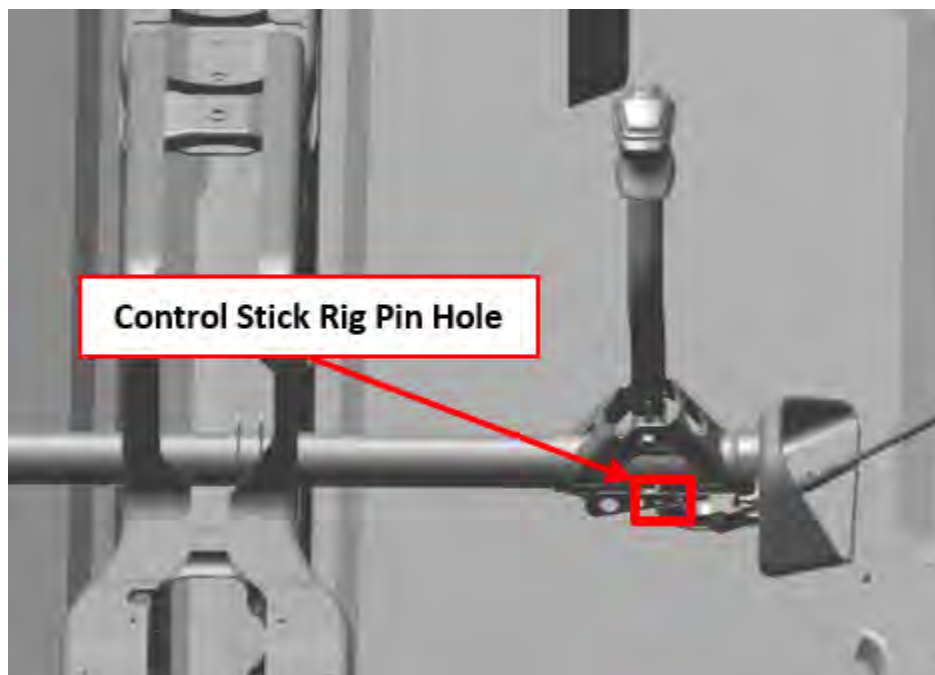

FIGURE 9-10
6. Install .1875 in diameter rig pin through the control stick rig pin hole. See Figure 9-10.